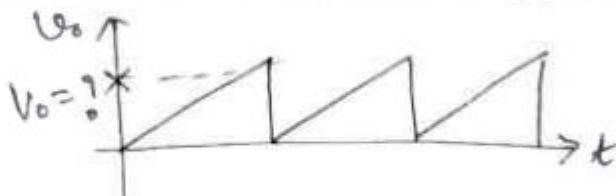

Fig.Q9(c)
c. Calculate V_0 of sawtooth wave (with respect to DAC interface) with the following program. Assume $R_F = 5$ K Ω in I/V converter in DAC circuit interfacing.[Refer fig.Q9(c)]